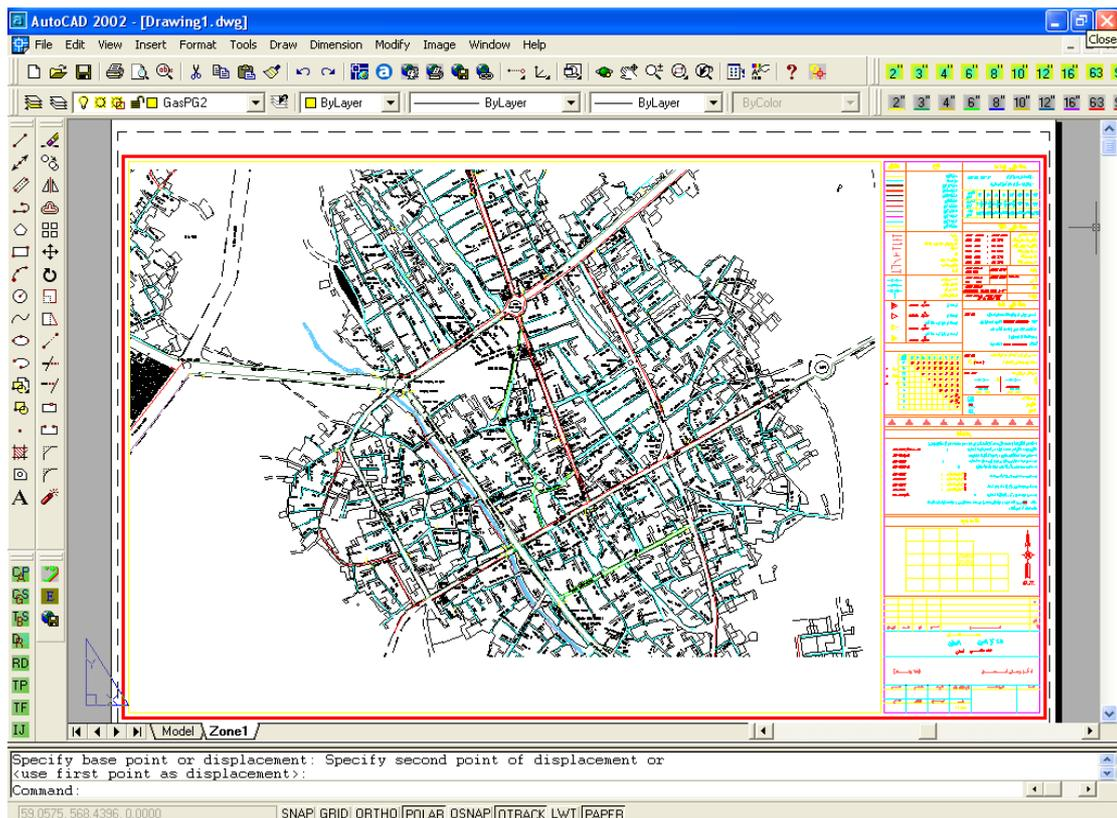

Figure 22
- Figure 22 : printing table and template border.